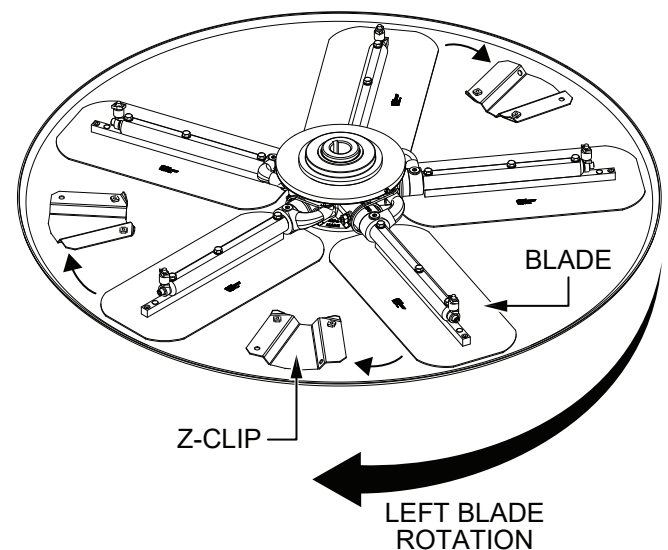

Figure 60. Blade Rotation
2. Rotate the blades into position under the Z-clips (Figure 60). Make sure the blades are rotated in the same direction as when the machine is in operation, or use the engine to rotate the blades into position.